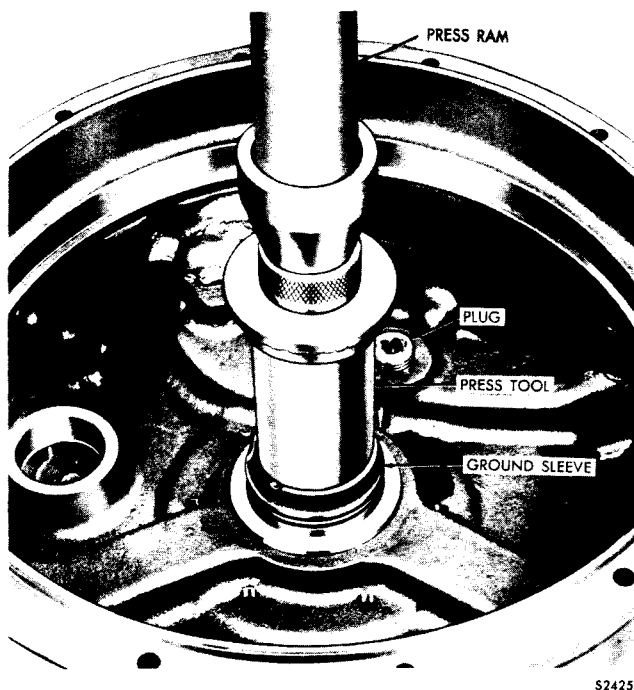

Fig. VI-19. Removing converter ground sleeve
(15) Remove two hook-type seal rings from the converter ground sleeve. Press the ground sleeve out of the converter housing (fig. VI-19).
(16) Remove the plug from the converter housing (fig. VI-19). Another plug (not shown) should be removed from the front of the housing if not previously removed.
(3) If no filter is used, no oil director tube is used and the opening at the front of the housing, and three openings at the rear, are plugged.
(4) If the ground sleeve has been removed from the housing, install two 3/8-16 headless guide bolts into opposite holes at the center bore of the housing. Chill the ground sleeve in "dry ice" for one hour. Install the ground sleeve, aligning the cutout in its flange with the opening in the housing. Press or drive the ground sleeve solidly against the housing. Remove the guide bolts.
(5) Install the plug near the ground sleeve, at the front of the converter housing (fig. VI-19).
(6) Install the two (one on later models) hook-type seal rings on the ground sleeve.
(7) Refer to the note following a(13), above. If the idler gear bearing was removed, apply Loctite Retaining Compound (or equivalent) onto the bearing outer diameter. Allow the parts to dry for 2 hours (min).